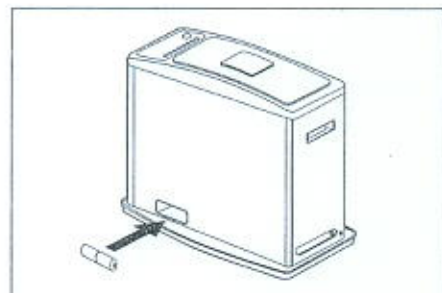

Fig. 3
6. INSTALLING BATTERIES (Fig. 3)